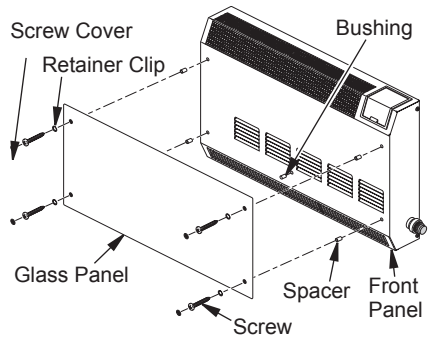

Figure 7 - Installing Glass Panel
3. Snap bushing into center front hole of front panel (see Figure 7).
5. Place spacers over 4 holes on front panel as shown in Figure 7.